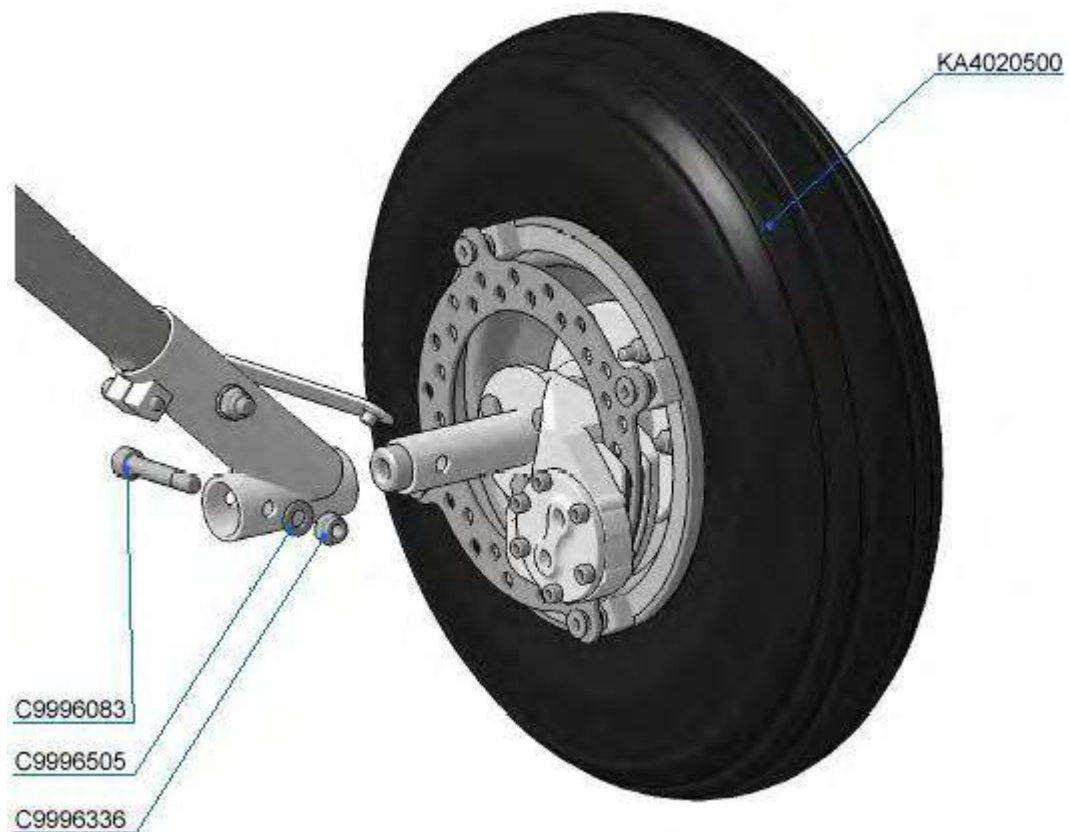
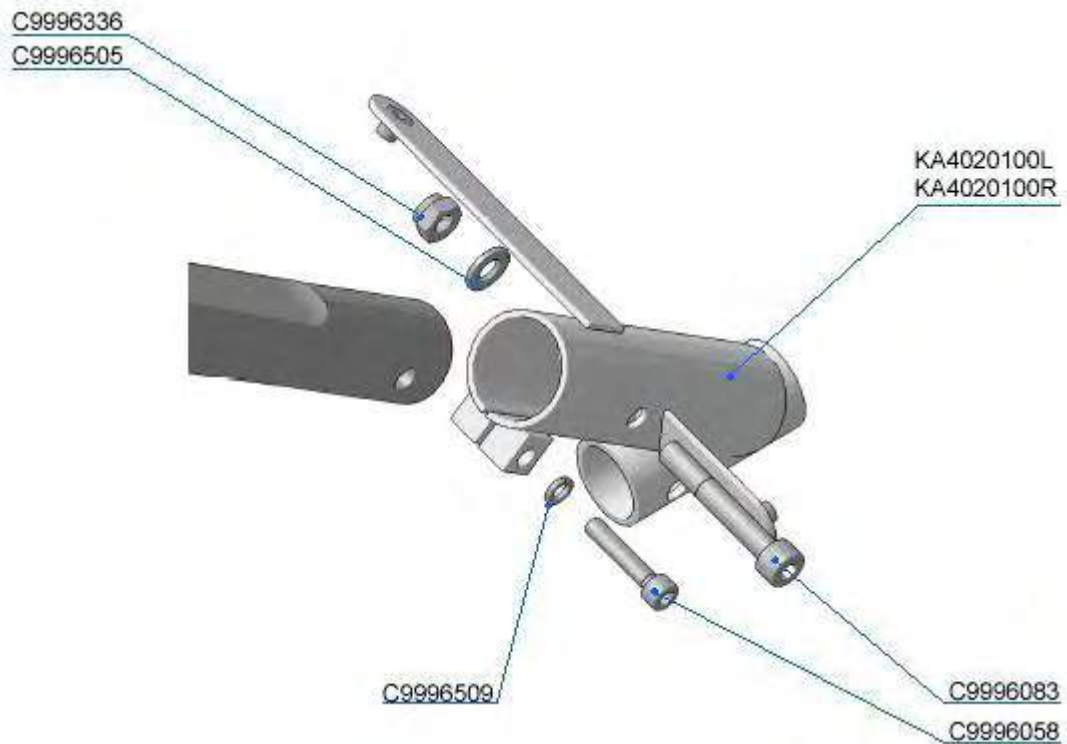

Fig. 6
Fig. 7
Refer to Fig. 6.
Unscrew the nut C9996336 (Self-locking nut DIN 985-M8, regular), Fig. 6, by a 10x13 wrench and wrench 6.
Inspect the bolt C9996083 for burrs, dents and tread integrity. Replace, if concerns appears. Inspect welding seams for integrity; the wheel attachment KA4020100R(L) (Main wheel attachment (right/left)), Fig. 7, for dents and cracks, mounting holes for integrity and circularity. Replace, if necessary.
Refer to Fig. 7.
Unscrew the nut C9996336 (Self-locking nut DIN 985-M8, regular), Fig. 7, by a 10x13 wrench and hex-nut wrench 6.
Remove the bolt C9996083 (Bolt DIN 912 M8x60-8.8), Fig. 7.
Replace the nut C9996336 (Self-locking nut DIN 985-M8, regular), Fig.7, to a new one.
Mounting of the main wheel attachment is a reverse of items 1 through 4. Tighten the nut (C9996336 Self-locking nut DIN 985-M8, regular), Fig. 7, with a 10x13 wrench and hex-nut wrench 6 to torque 200 lb-in (22.5 Nm), and the bolt C9996058 (Bolt DIN 912 M6x25-8.8) to 80 lb-in (9 Nm).
Set the axle into the main wheel attachment KA4020100R(L) (Main wheel attachment (right/left)), Fig. 7, and match the holes for the bolt C9996083 (Bolt DIN 912 M8x60-8.8), Fig. 6.
Set the bolt C9996083 (Bolt DIN 912 M8x60-8.8), Fig. 6.
Replace the nut C9996336 (Self-locking nut DIN 985-M8, regular), Fig. 6, to a new one. Put a C9996505 (Washer DIN 125 A-8.4 mm VZ) under the nut. Tighten the nut to torque 200 lb-in (22.5 Nm) by a 10x13 wrench and hex-nut wrench 6.